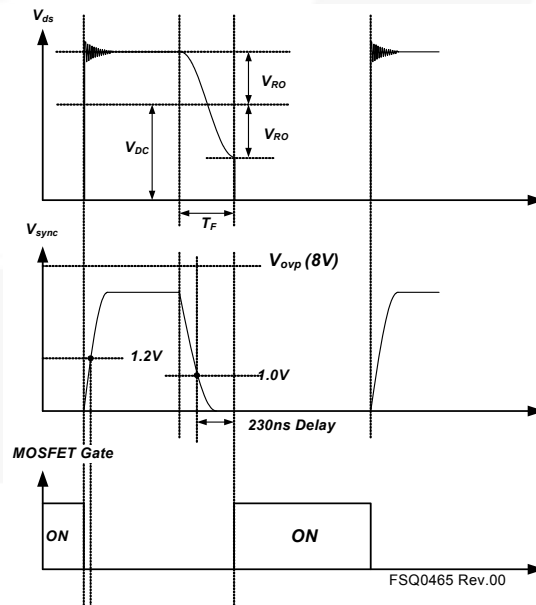
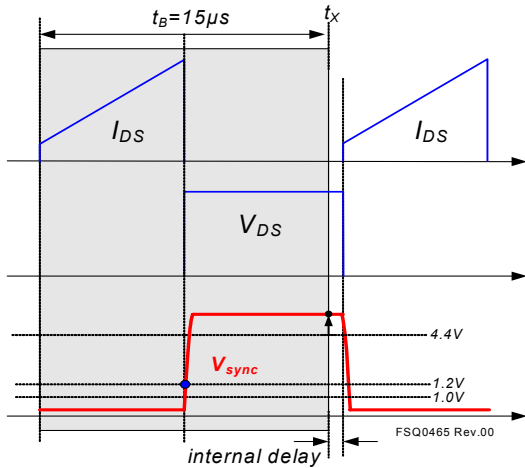

Figure 24. Quasi-Resonant Switching Waveforms
Figure 25. $V_{sync} > 4.4V$ at t_x
3. Synchronization: The FSQ-series employs a quasi-resonant switching technique to minimize the switching noise and loss. The basic waveforms of the quasi-resonant converter are shown in Figure 25. To minimize the MOSFET's switching loss, the MOSFET should be turned on when the drain voltage reaches its minimum value, which is indirectly detected by monitoring the V_{CC} winding voltage, as shown in Figure 24.
The switching frequency is the combination of blank time (t_B) and detection time window (t_W). In case of a heavy load, the sync voltage remains flat after t_B and waits for valley detection during t_W . This leads to a low switching frequency not suitable for heavy loads. To correct this drawback, additional timing is used. The timing conditions are described in Figures 25, 26, and 27. When the V_{sync} remains flat higher than 4.4V at the end of t_B which is instant t_x , the next switching cycle starts after internal delay time from t_x . In the second case, the next switching occurs on the valley when the V_{sync} goes below 4.4V within t_B . Once V_{sync} detects the first valley in t_B , the other switching cycle follows classical QRC operation.